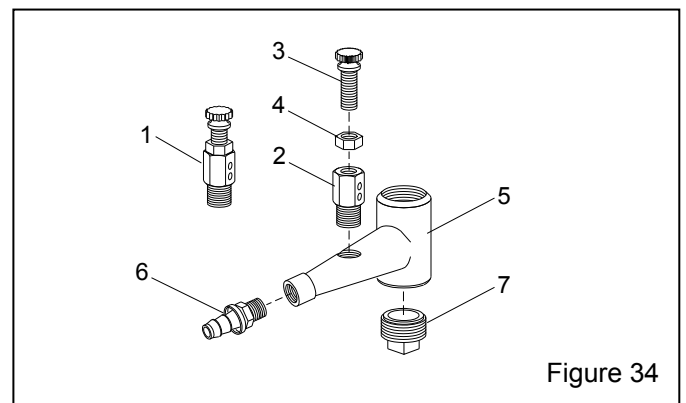

Figure 34
9.8 Metering Valve Assembly, Figure 34